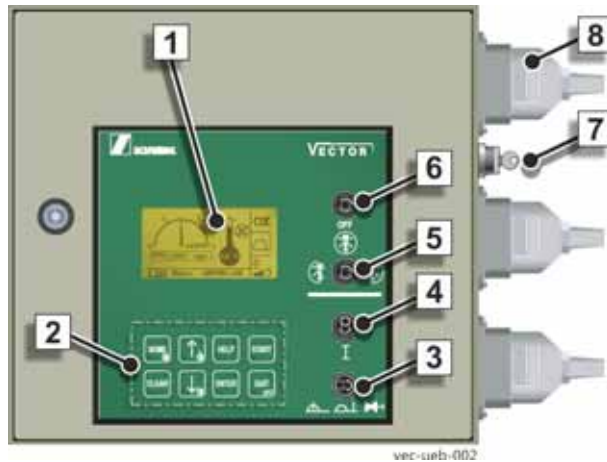

Fig. 183 (Steuerschrank der VECTOR-Steuerung)
Various pieces of information about the concrete pump can be shown on the display of the switch cabinet (1) (**Fig. 183**).